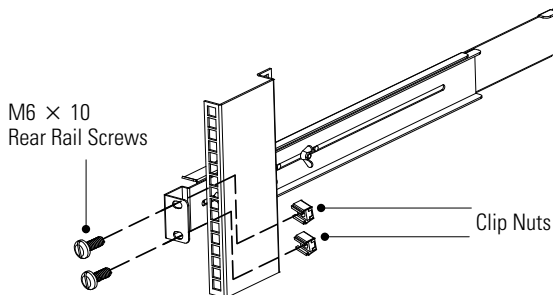

Figure 8. Securing the Rear Rail
6. Using two M6 × 10 screws and two clip nuts, attach the rail to the rear of the rack (see Figure 8).